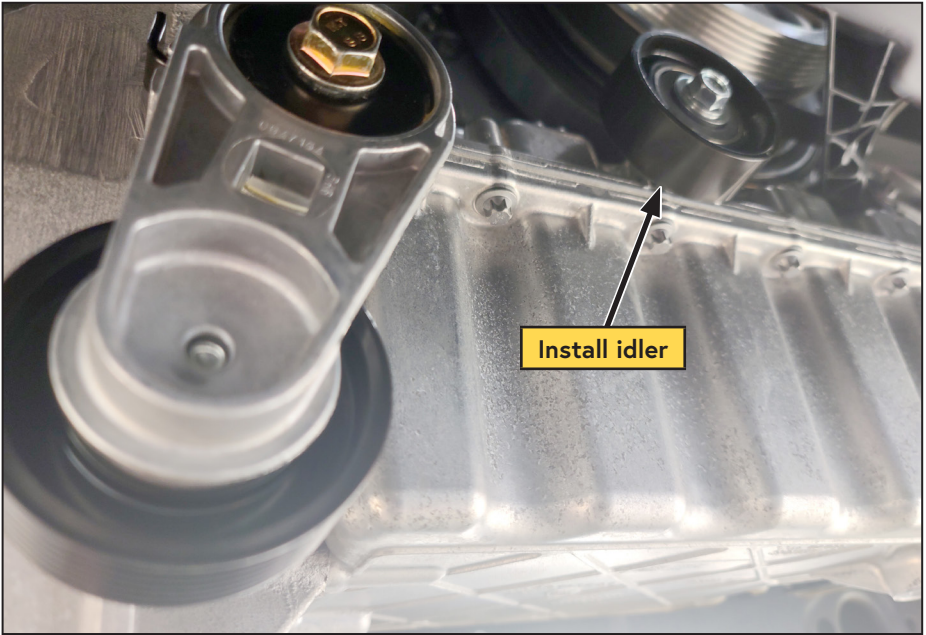

Figure 10 — Install oil pan idler
- Using the supplied bolt, washer, and spacer, Install the remaining idler into the tapped hole in the oil pan (Figure 10).